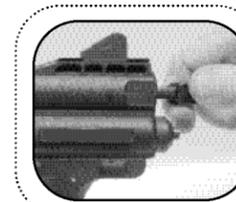

Figure 1 Pull Back
4. Pull the cocking knob straight back from the rear of the marker until the cocking mechanism locks back in the cocked position. Push cocking knob back into original position. Figures 1 and 2.